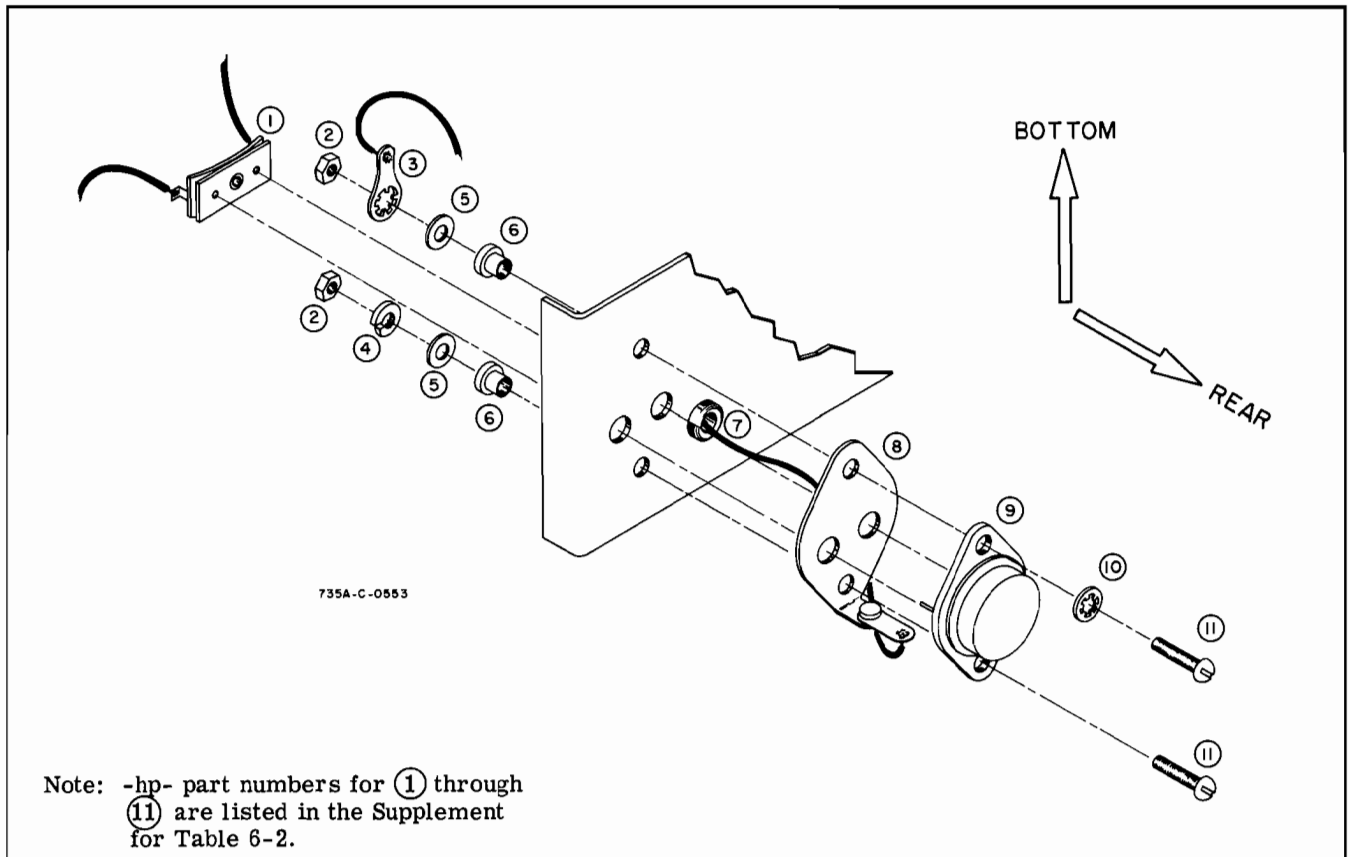

Figure 5-5. Transistor Mounting
- d. Use the reverse order of this procedure for replacement of transistor. (See Figure 5-5 for order of assembly.)
| <p>⑥ Check the transistor bias levels for A1Q1 - A1Q4 as provided in Figure 5-5. If correct, proceed to ⑦. If correct, replace faulty component.</p> <p>⑦ Measure the dc voltages at the points indicated below. DC levels should be as prescribed. If not, check the components listed.</p> | <table border="1"> <thead> <tr> <th>Location</th> <th>DC Level</th> <th>Possible Malfunction</th> </tr> </thead> <tbody> <tr> <td>Pin 6, A3</td> <td>12.4 v</td> <td>A3Q4 and A3CR1</td> </tr> <tr> <td>Pin 5, A3</td> <td>13.4 v</td> <td>A3Q3</td> </tr> </tbody> </table>  | Location       | DC Level             | Possible Malfunction | Pin 6, A3 | 12.4 v | A3Q4 and A3CR1 | Pin 5, A3 | 13.4 v | A3Q3 |